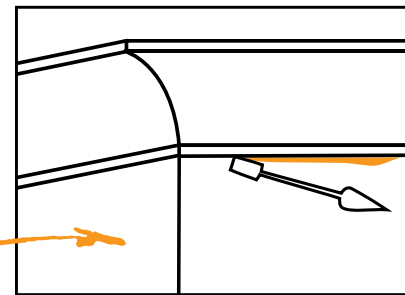

FIGURE 63 Clean Off Excess
- Clean off excess and remove nails when cement has partially set [Figure 63]